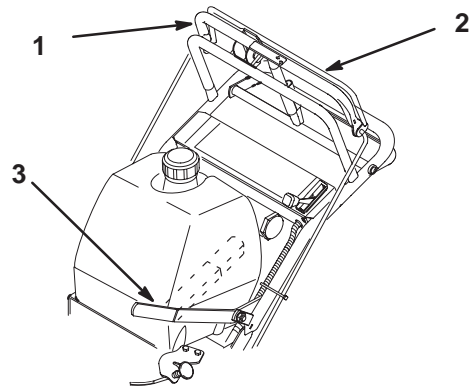

Figure 19
1. Pull on the upper control bar to stop the machine (Fig. 19).
2. Hold the bail against the upper control bar (Fig. 19).
3. To engage blade(s), push the blade control lever firmly forward, until it latches over-center (Fig. 19).
1. To disengage the blade(s), pull blade control lever rearward, all the way (Fig. 19).